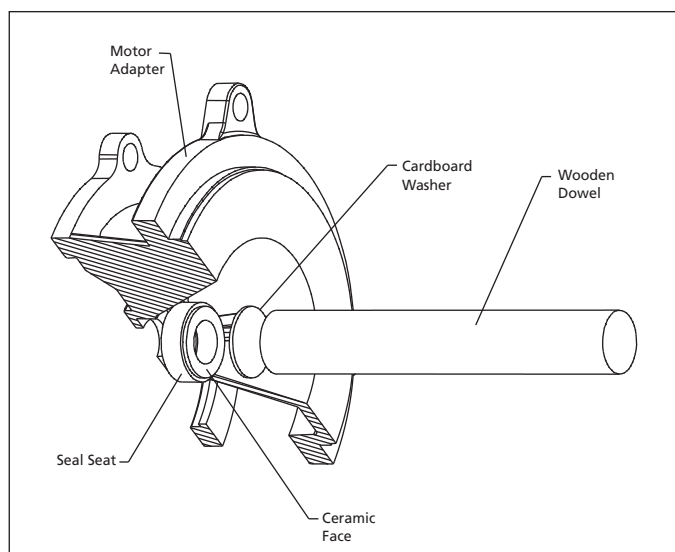

Figure 5 - Seal Seat Assembly
3. Wet the rubber portion of the new seal seat (part of Ref. No. 6) with a light coating of soapy water. While wearing clean gloves or using a clean light rag, press seal seat squarely into adapter recess. Use the cardboard washer (usually supplied with new seal) to place over the polished ceramic surface and use a piece of pipe or dowel rod to press in firmly but gently (See Figure 5). Avoid scratching the ceramic face, usually white.